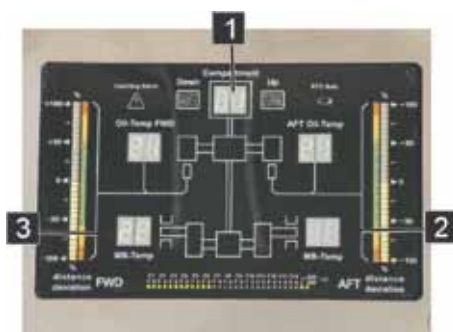

Fig. 107: Indication unit
1. Note the number of the cylinder (Fig. 107/1) and the position FWD (Fig. 107/3) and AFT (Fig. 107/2) respectively.